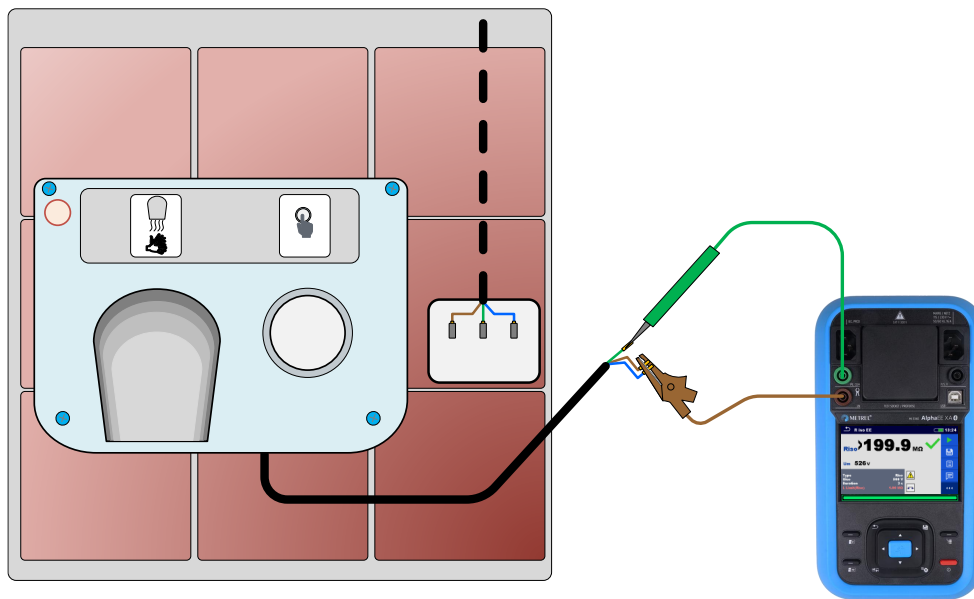

Figure 173_Insulation resistance on fixed installed equipment
- Connect the DUT according to the connection diagram Figure 173_Insulation resistance on fixed installed equipment,